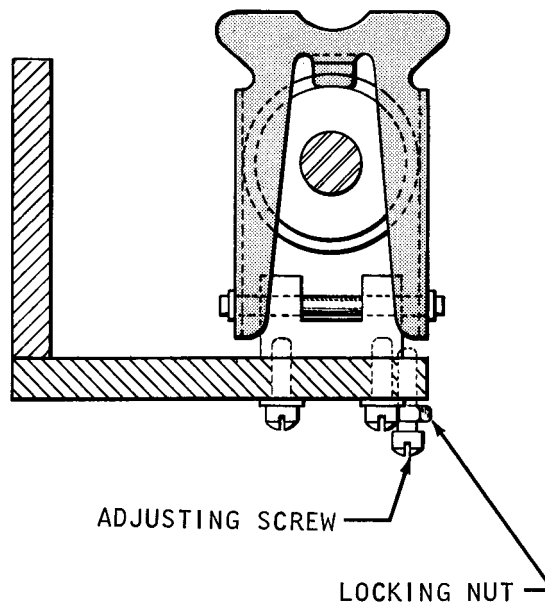

Figure 40. Side Aligner Adjustment
7. Keeping the machine at 351°, loosen the left side aligner lock nut and turn the adjusting screw to position the aligner 37/64" from the inside of the left side frame (Figure 40). Tighten the lock nut. NOTE: This step is only necessary on machines with an adjustable left side aligner.